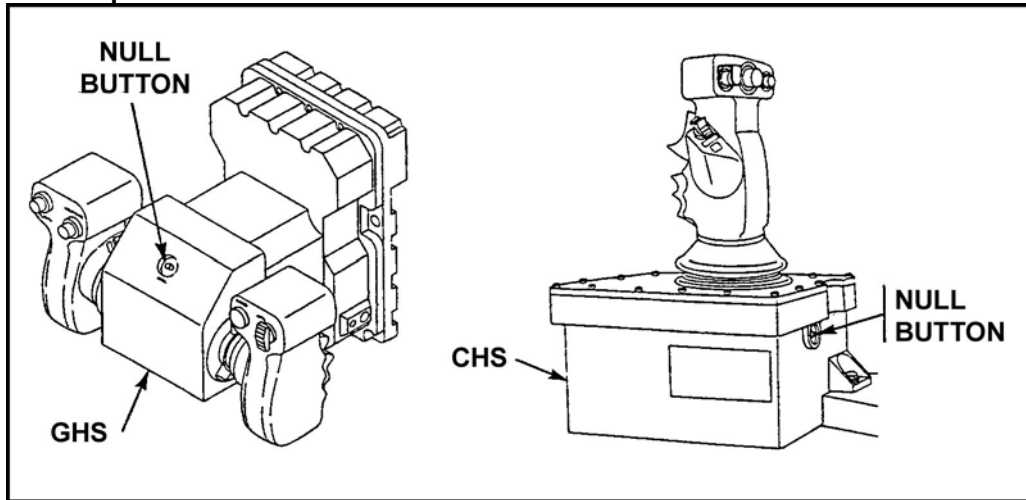

Figure 13. NULL button.
- (1) Unload and make weapons safe.
- (2) Unstow CIV.
- (3) Position vehicle on level surface (slope indicator bubble at the drivers station is within the black inner ring).
- (4) Null system (Figure 13).